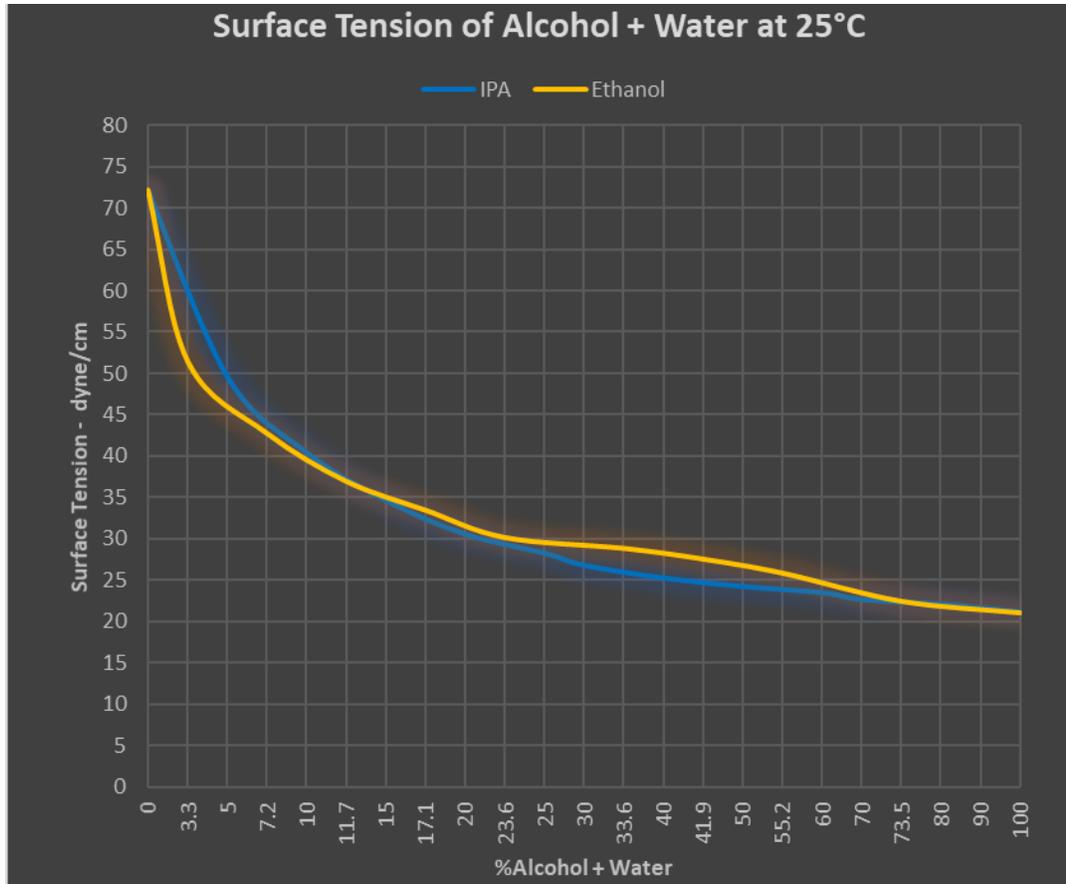

Figure 38 – Water + Alcohol Surface Tensions of at 25°C
VIII.8.5 **Figure 38** shows that Ethanol and IPA will reduce the water surface tension improving wetting similar to a nonionic surfactant with about 15% to 20% being the optimum concentration for a surface tension of about 34.6 to 30.5 dynes/cm respectively. Data for **Figure 38** is from "*Surface Tension of Alcohol + Water from 20 to 50°C*", Gonzalo Vazquez, Estrella Alvarez, Jose M. Navaza, *Journal of Chemical and Engineering Data*. 1 May 1995 (32). Various forums discuss using just DIW and a few percent IPA and getting improved cleaning, especially for particulate. This result is valid because even 2.5% IPA in water can reduce the surface tension to about 60 dynes/cm, reducing the water-IPA solution contact angle with the record improving the wetting and improving the cleaning especially for fine particulate.
Triboelectric series and has a very low critical surface tension of about 19 dynes/cm. The paper demonstrated the ability of 20% IPA + water and greater % IPA to dissipate the charge from Teflon™. Less than 20% IPA + water did not. The explanation is that 20% IPA + water from **Figure 38** has a surface tension of about 30 dynes/cm and this is able to wet the Teflon™ enough to dissipate the static charge. So, any solution that will 'wet' the record can remove static charge.